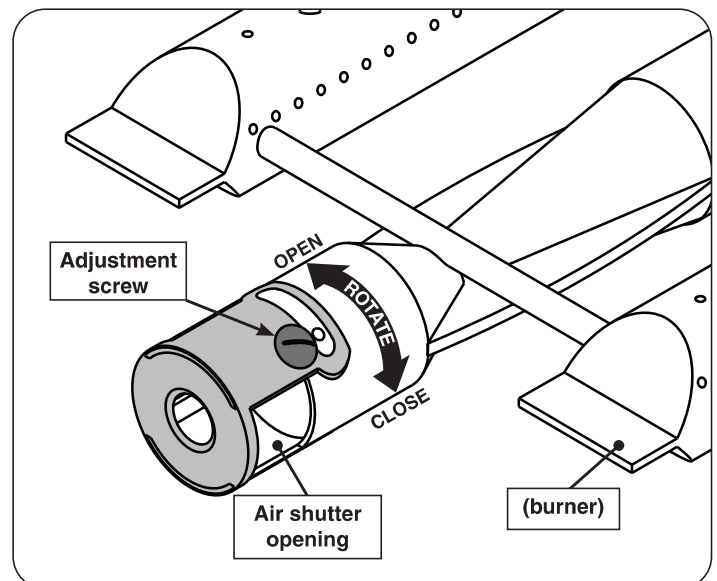

Fig. 38-2 Main burner air shutter adjustment detail
1. To adjust the air shutter, loosen the adjustment screw with a flathead screwdriver. Then rotate the shutter to open or close it. See Fig. 38-2 for details.